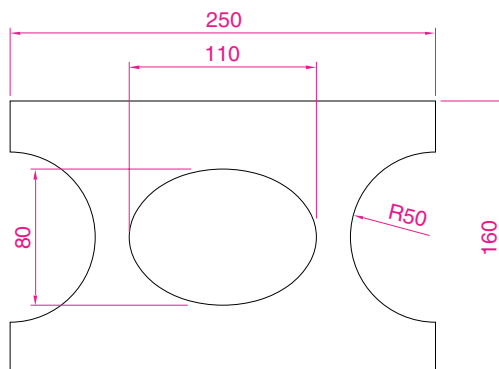

Fig. 13.49 Exercise 7
7. Working to the dimensions given in Fig. 13.49, construct an extrusion of the plate to a height of 5 units.